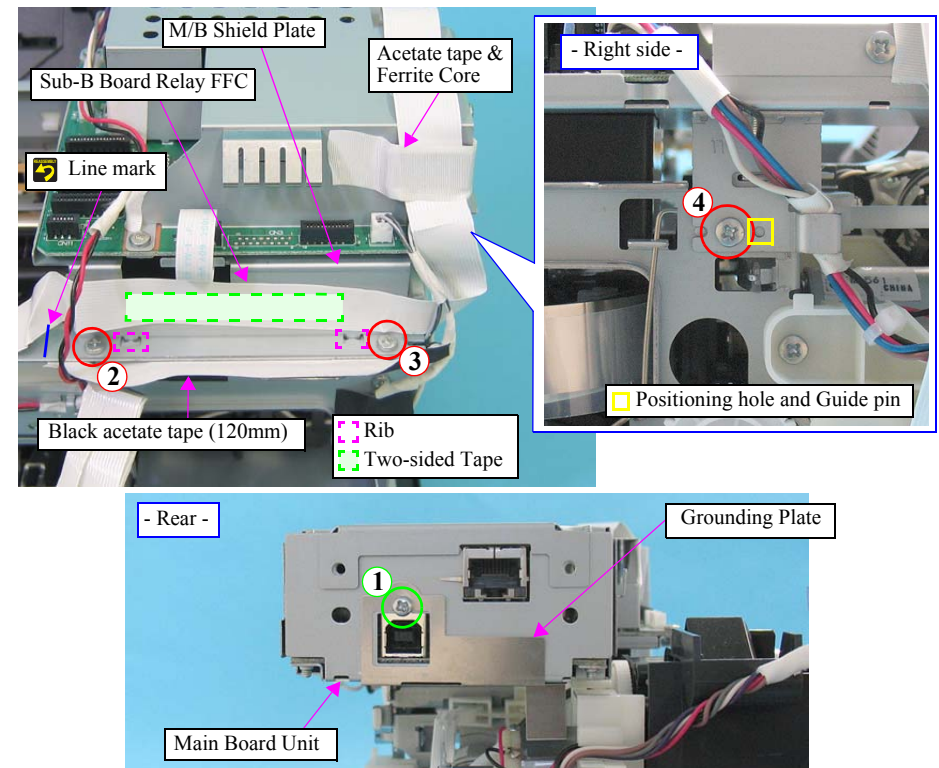
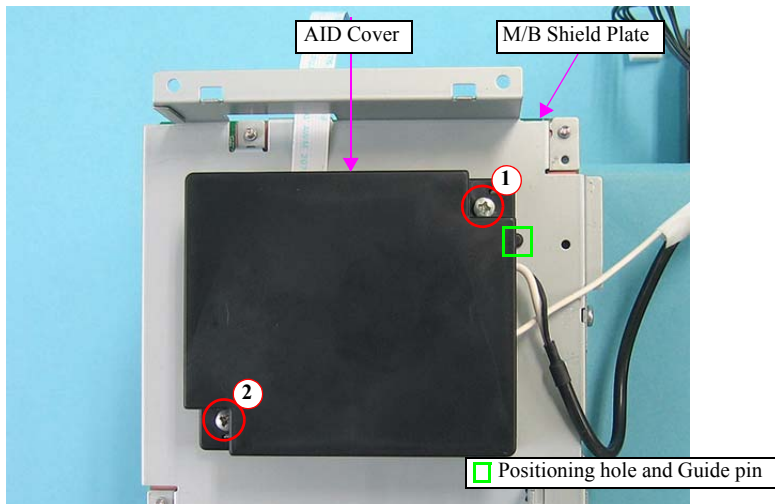

Figure 4-54. Removing the AID Board (2)
Figure 4-55. Removing the AID Board (3)
- Tighten the screws in the order indicated in Figure.4-54 and Figure.4-55.
- When attaching the Black acetate tape (120mm) shown in Figure 4-54, align the left end with the marking, and cover the heads and shafts of (2)/(3) screws.